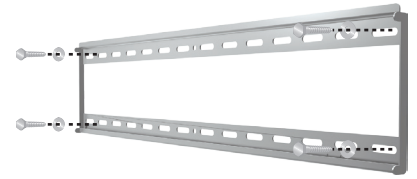

Figure 1 – Attach wall plate to wall (timber frame)
4. Attach wall plate using lag bolts (Q) through washers (R). Do not over tighten. See Figure 1.